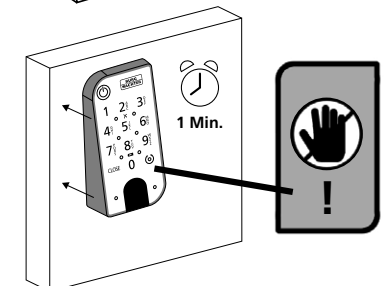

Fig. 42
- 4 Press the keypad against the wall for approx. one minute (Fig. 42).